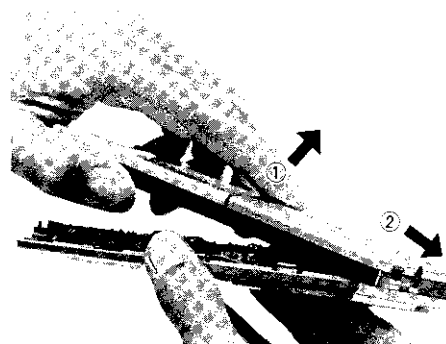

Fig. 4
6. Remove the catch in the direction of arrow① and remove the cabinet cover in the direction of arrow②, as shown in fig. 4.